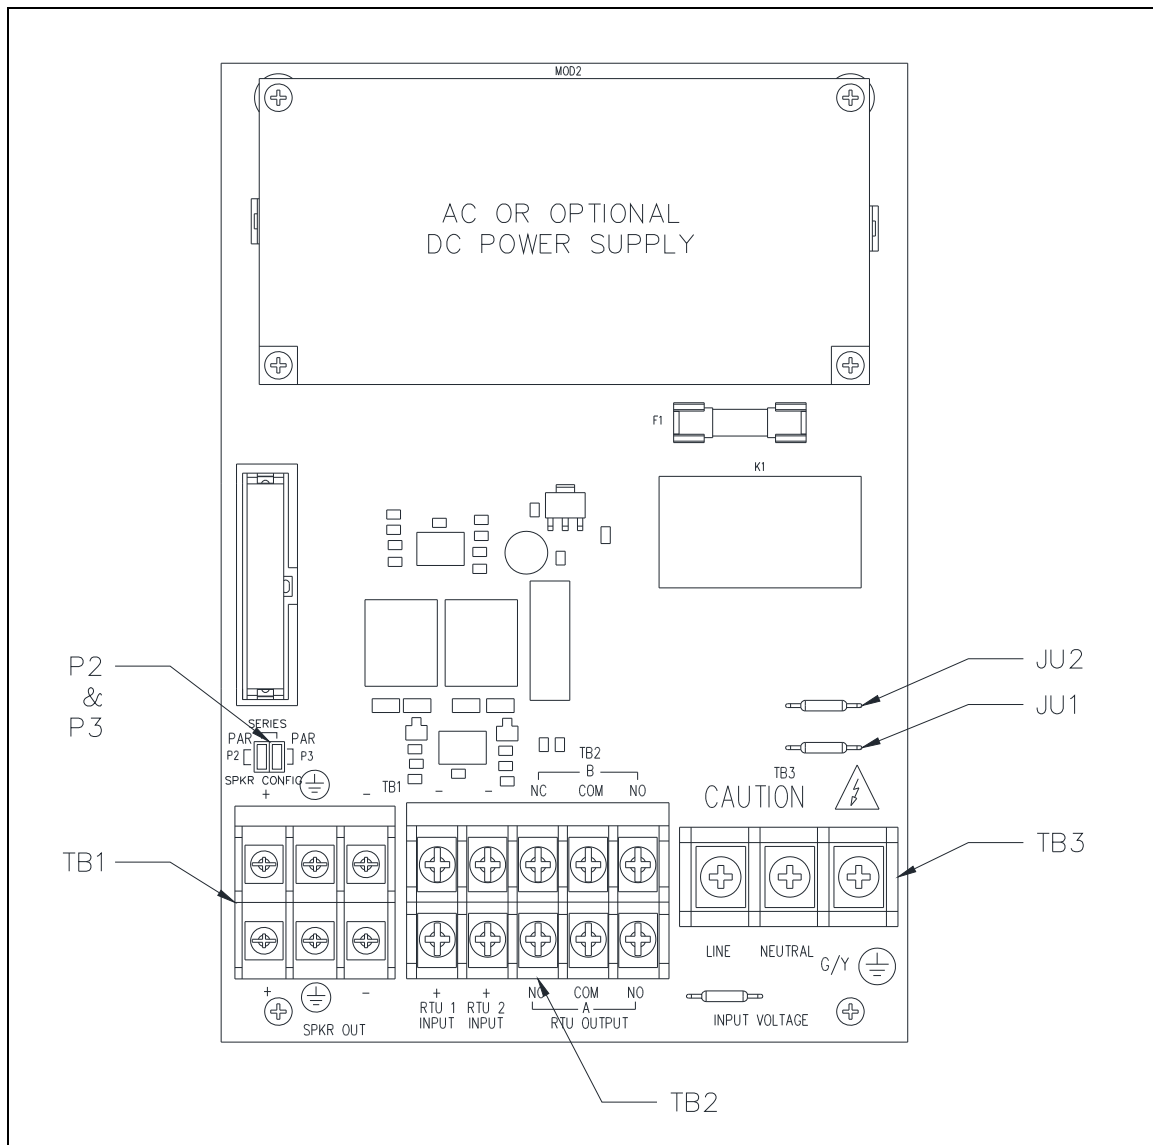
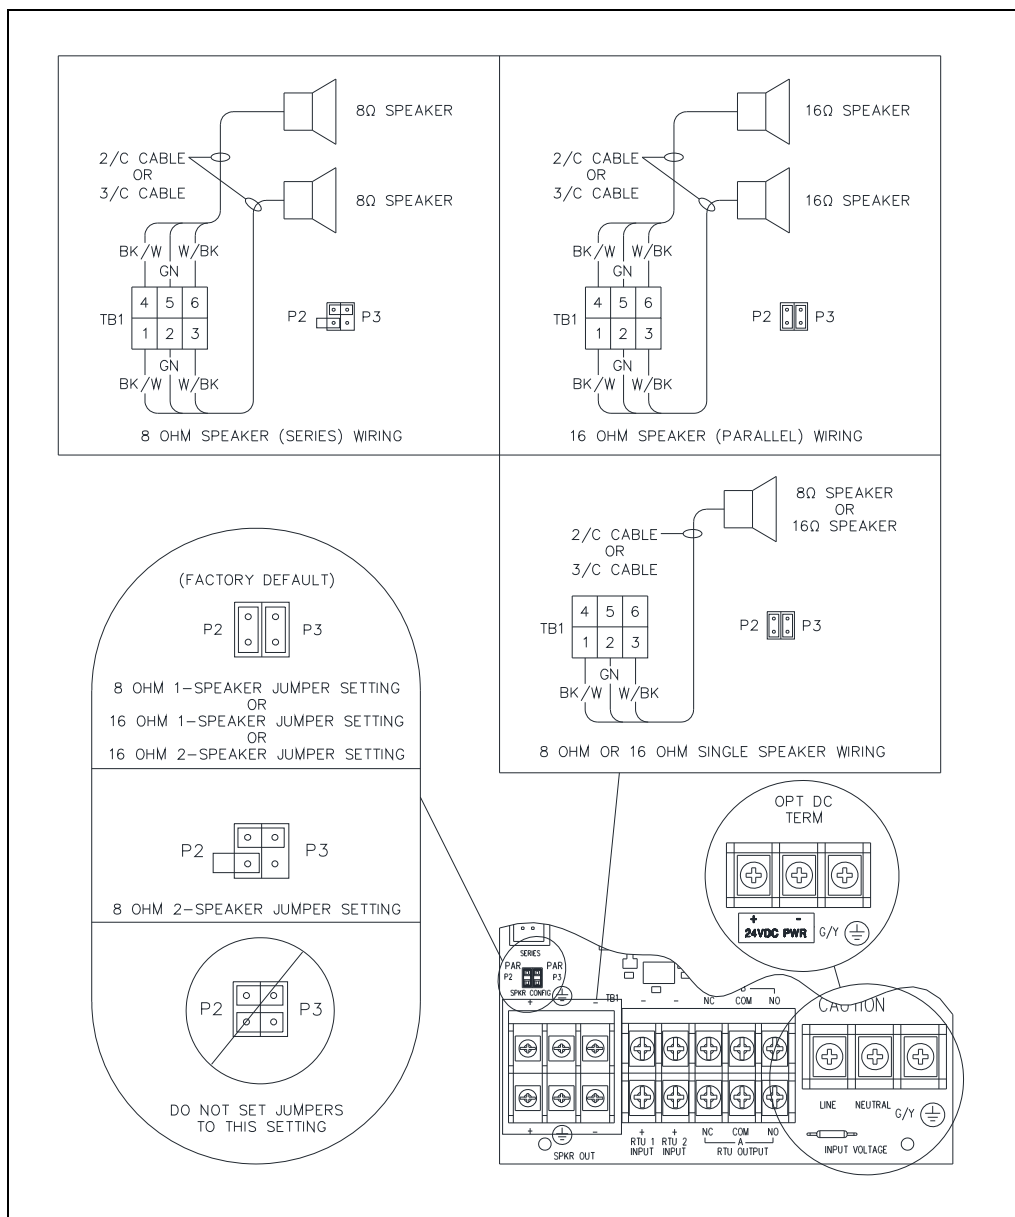
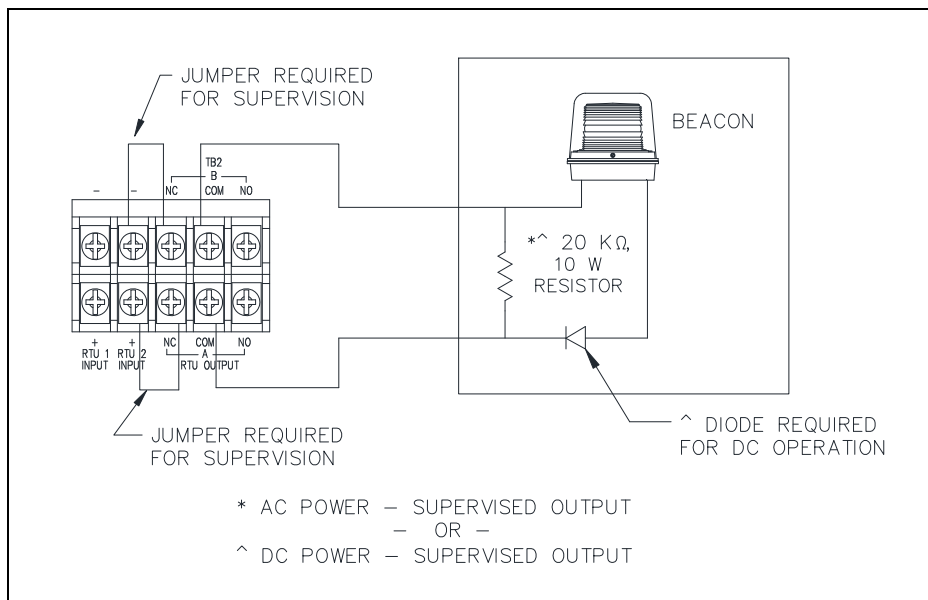

Figure 4. SP2 Standard Termination PCBA
Figure 5. 8/16-ohm Speaker Impedance Configuration and AC/DC Termination at TB3
Figure 7. Supervised Output Wiring—TB2
5. Configure the speaker jumpers; P2 and P3, for the appropriate impedance for use with 8-ohm or 16-ohm speakers (see Figure 4 and Figure 5).
The standard Termination PCBA contains two auxiliary RTU inputs. These inputs are terminated at terminal block TB2 (see Figure 5).
Two Form “C” contacts are provided to power a beacon (see Figure 7). These outputs can be reconfigured for dry contact use by removing jumpers JU1 and JU2. Termination for these outputs is provided at terminal block TB2 on the Termination PCBA (see Figure 5).
5. Install a 20-kilohm 10-watt resistor across the terminals of the beacon cable (see Figure 7).
The ac or optional dc power supply is mounted on the Termination PCBA. The termination PCBA includes terminal block TB3 for connecting the local power source to the station (see Figure 5):